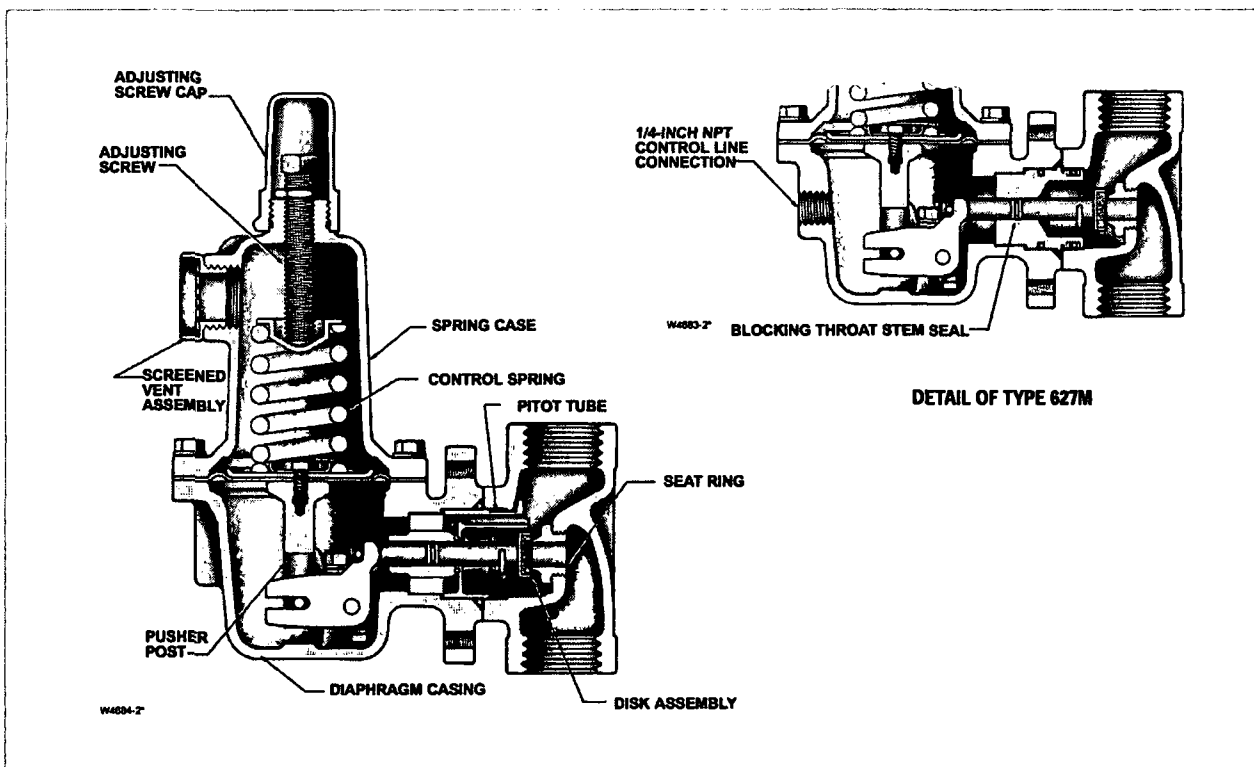

Figure 4. Type 627 and 627M Construction Details
- **Tamper-Resistant**—An adjusting screw locknut and protective cap (figure 4) is standard on all 627 Series regulators to discourage tampering with the pressure setting.
Type 627: Self-operated pressure reducing regulator equipped with a pitot tube for greater regulated capacities (figure 4)
Type 627M: Type 627 with a stem seal between the body outlet pressure and diaphragm case. Pressure is measured under the diaphragm through the 1/4-inch NPT downstream control line connection (figure 4)